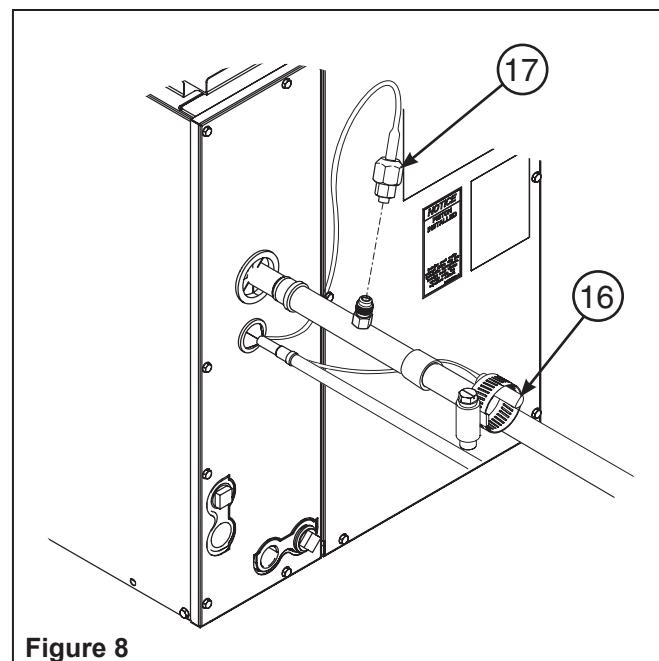

Figure 8
- Position the bulb on a smooth straight section of the vapor line downstream of the equalizer fitting as illustrated in Figure 8. If the bulb must be mounted vertically, ensure that the bulb tube is pointed upward.
16. Attach the bulb to the vapor line using the supplied hose clamp (Figure 8). The clamp should be "snug" but not "tight" – spec is to torque the hose clamp to  $20 \pm 5$  in-lb. Make sure that the entire length of the bulb is in firm contact with a straight smooth section of the vapor line. Wrap with supplied insulation.